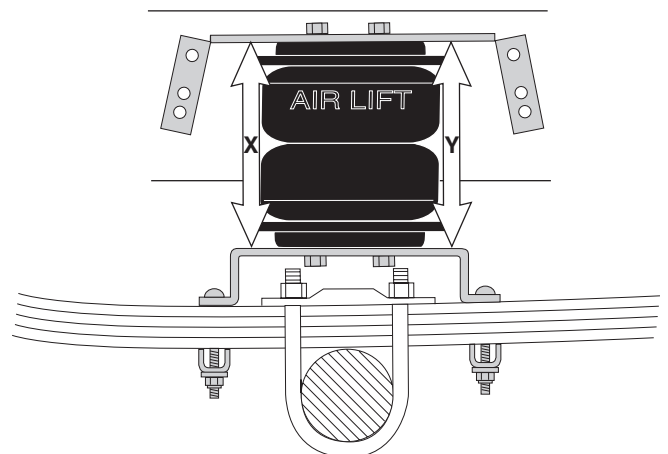

Fig. 10
- Ensure the X and Y are the same between the upper and lower bracket (Fig. 10).